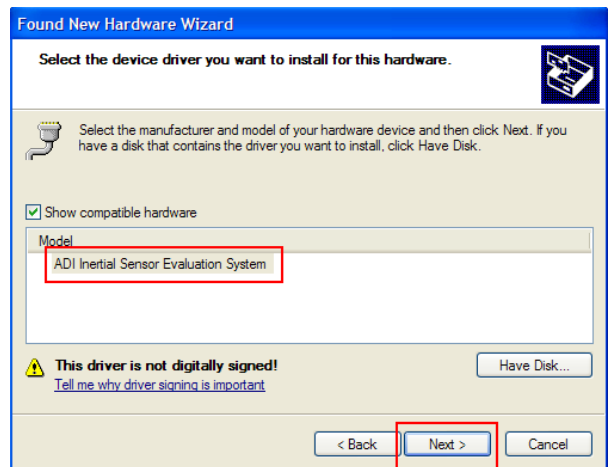

Figure 4. Selection of the ADI Inertial Sensor Evaluation System Drivers
4. Select **ADI Inertial Sensor Evaluation System** from the model list and click **Next >** to complete the process (see Figure 4).